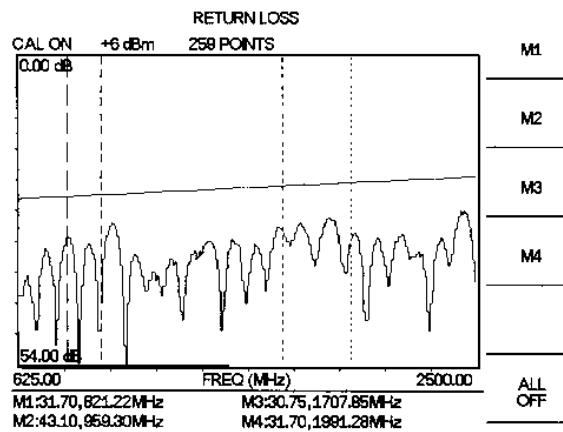

Figure 4-10. Cable SWR Measurement Results
Step 17. Observe the displayed measurement. Figures 4-10 and 4-11 show typical SWR and Return Loss measurements with markers and limit line set.
Step 35. Repeat steps 33 and 34 for markers M2, M3, and M4. Set M2 to 960 MHz, M3 to 1710 MHz, and M4 to 1990 MHz. (Figures 4-10 and 4-11 depict the SWR and Return Loss measurements).